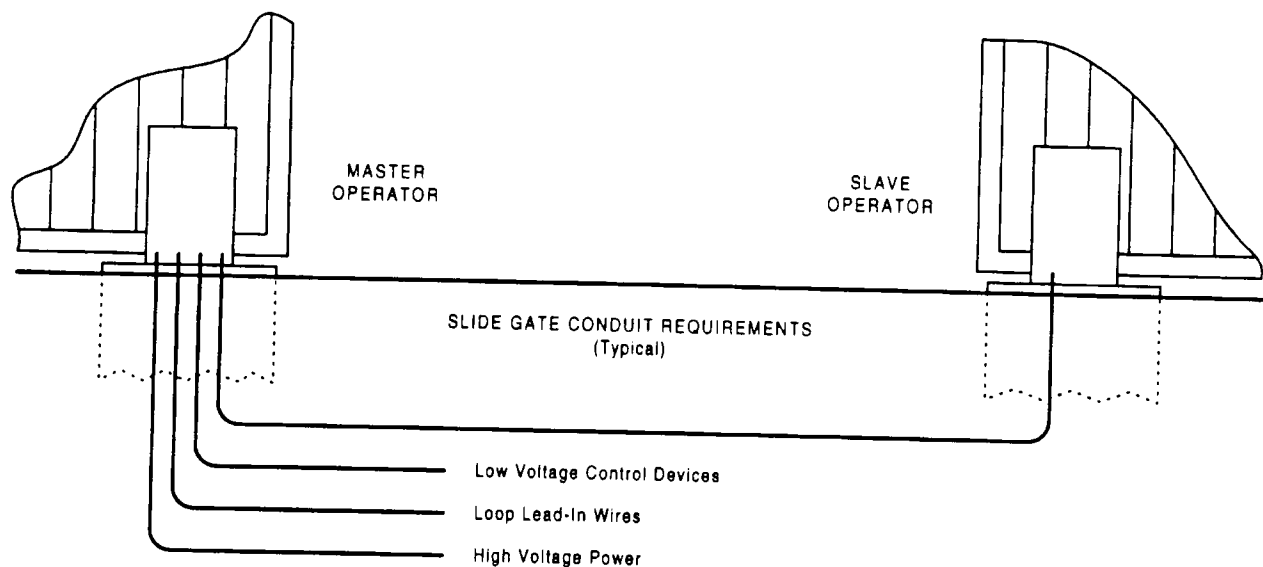

FIGURE 2.1
- The conduit requirements shown in figure 2.1 are for a typical slide gate operator installation (the slave operator is shown for those applications where a slave operator may be used). The conduit requirements for your application may vary from this depending on your specific needs.